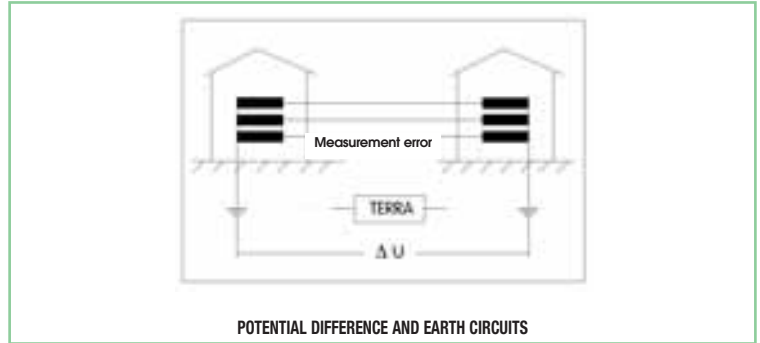

fig. 4
- the higher the isolation (in KV), the greater the security of transmission where there are zero potentials, electromagnetic interference, transients (lightning, discharges etc.) (Fig. 4).